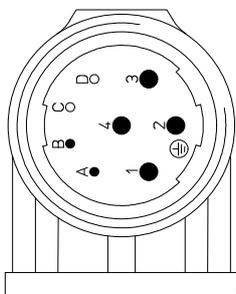
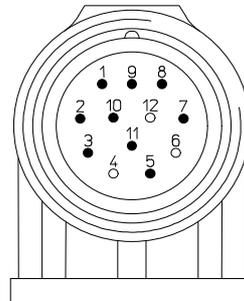

Fig. 3-7a: Front view of the power connector when right-angled fixed on the motor frame
Fig. 3-7b: Front view of the signal connector when right-angled fixed on the motor frame
a) power and signal connectors, right-angled fixed on the frame of the motor; Fig. 2-2a in Chapter 2 shows the overall dimension drawings; Fig. 3-7a and Fig. 3-7b show the pin numbers;